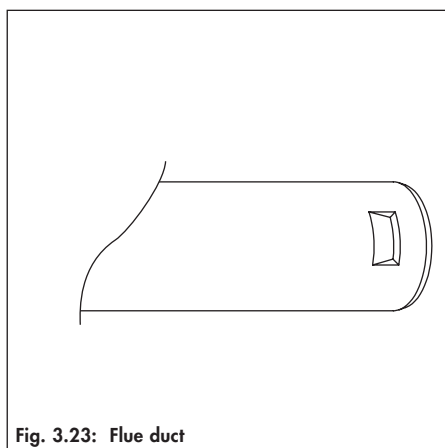

Fig. 3.23: Flue duct
⚠ Please note: The catch on the top of the terminal must lock firmly into the notch in the flue duct (fig. 3.23).
- ☞ Please note: The catch on the top of the terminal must lock firmly into the notch in the flue duct (fig. 3.23).